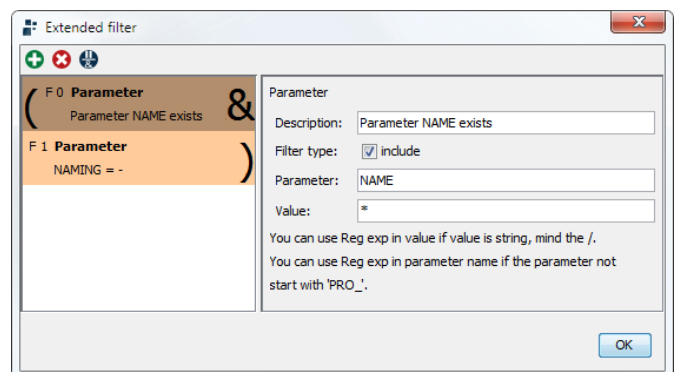

Figure 12 - Enhanced filter DESIGNATION
11. Create two extended filters for the newly created action. Both filters should be of the parameter type and correspond to the values specified in “Figure 12 - Enhanced filter DESIGNATION”.